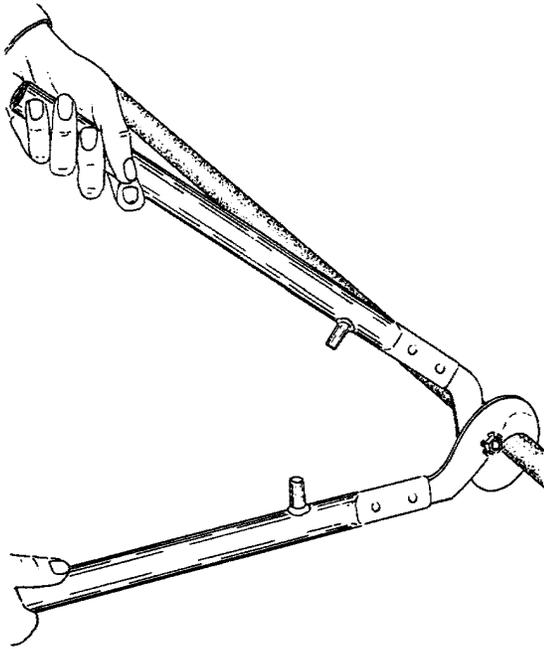

Fig. 17
- (a) Cut cable at desired point, as shown in Fig. 17, using recommended cable shears. The shears make use of specially shaped cutting blade to insure minimum damage to the STYROFLEX cable.